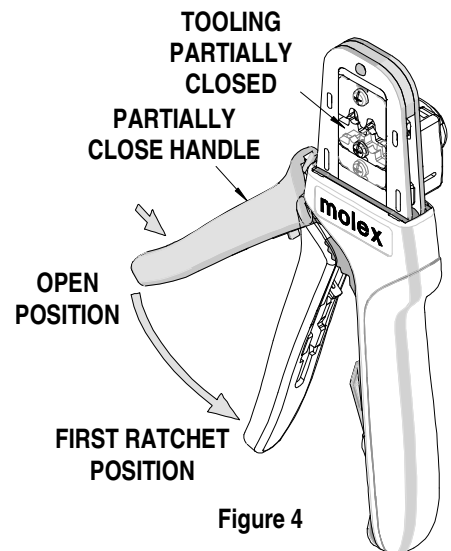

Figure 4
5. Close the tool handle until the first ratchet position engages. See Figure 4.